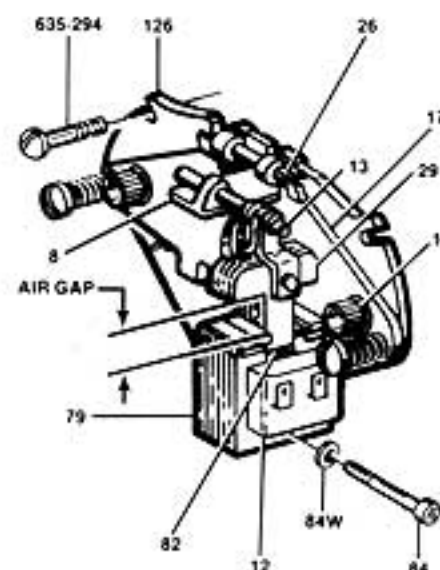

Figure 8. Motor Brake Adjustment
The motor brake should be checked periodically for wear of the friction discs and/or proper adjustment of the solenoid air gap. Refer to Figure 8. Normal lining wear will cause the solenoid lever (8) to move away from the solenoid frame (79) and thus increase the air gap and trolley stopping time.
Replacement of Coil (Refer to Figure 8 on page 7 and Figure 15 on page 19).